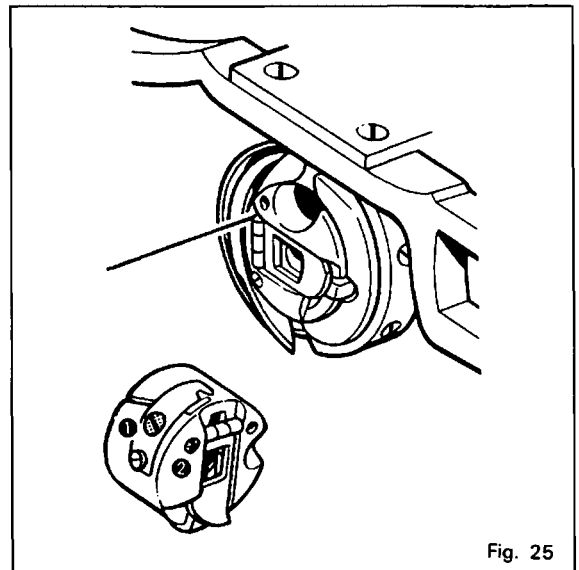
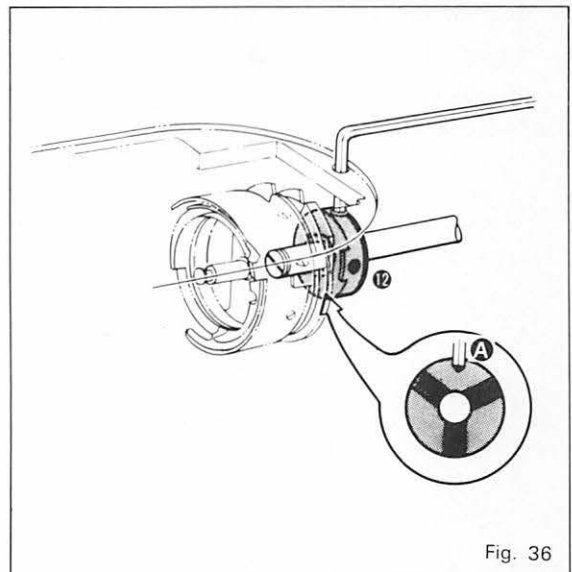

Fig. 25
Fig. 36
- a. Loosen lower tension adjusting screw ❶ and get the tension of adjusting spring to be "0".
- b. Adjust the lower thread tension to turn the adjusting screw ❷ putting the bobbin into the bobbin case. (Fig. 25)
If you remove the needle plate, you may find out clutch adjusting holes as per Fig. 25. Turning the pulley toward you, put the hexagonal spanner into the hole and get the position of clutch so that the centre of needle meets with hook point, when next to ① hole meets hole ②. (Fig. 36)